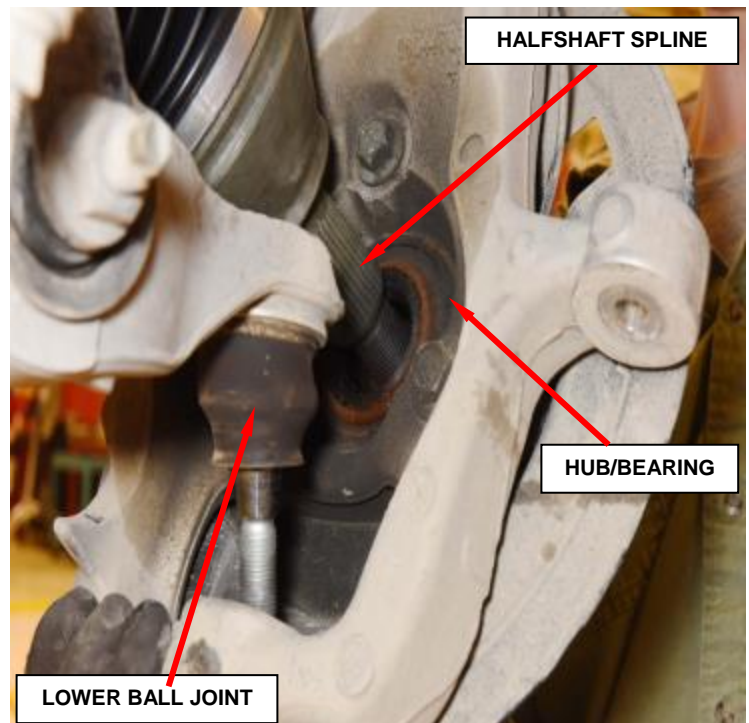

Figure 7 – Halfshaft to Knuckle
11. Install the left side halfshaft spline into the knuckle hub/bearing (Figure 7).